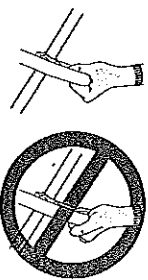

Fig. 27
- Place your thumb on the loop handle and grip the handle with your other fingers. (Fig. 27)